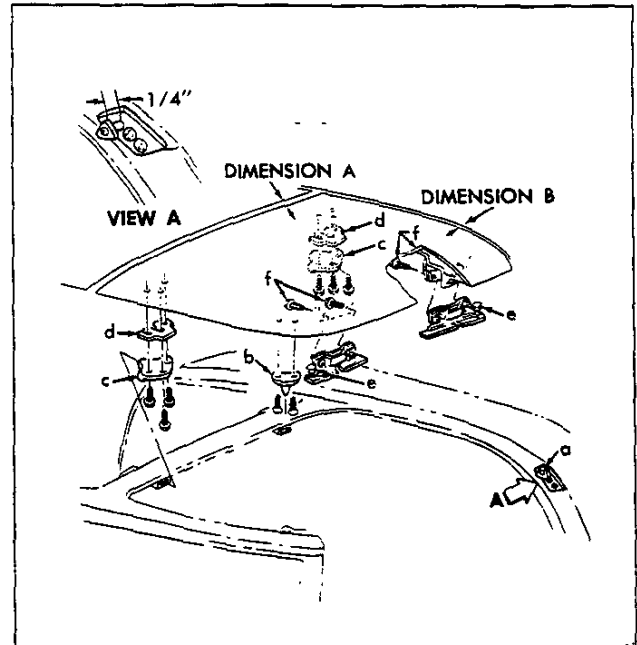

Fig. 75—Roof Panel Alignments
**ROOF PANEL ADJUSTMENT (Fig. 75)**